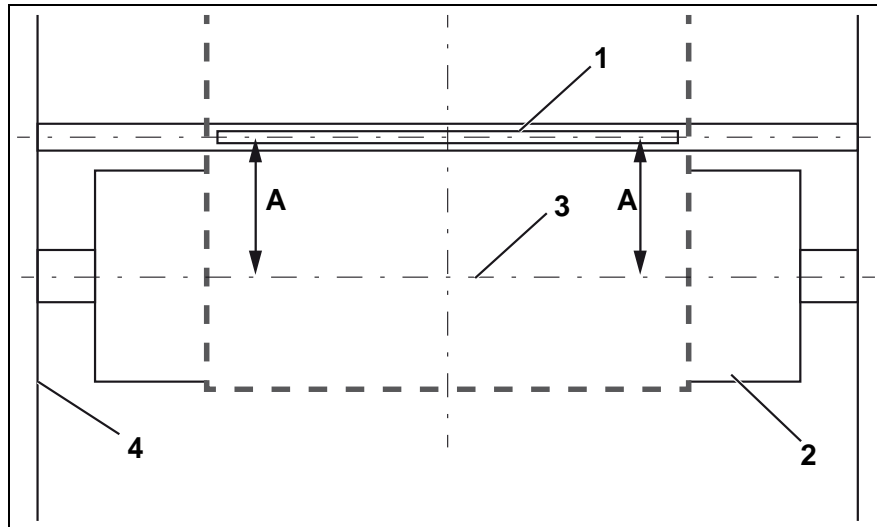

Fig. 9:
2. Loosen locking collar (1, Fig. 9) and adjusting ring (5, Fig. 9) on both sides.
4. Tighten adjusting ring (5, Fig. 9) and securing ring (1, Fig. 9) on both sides.